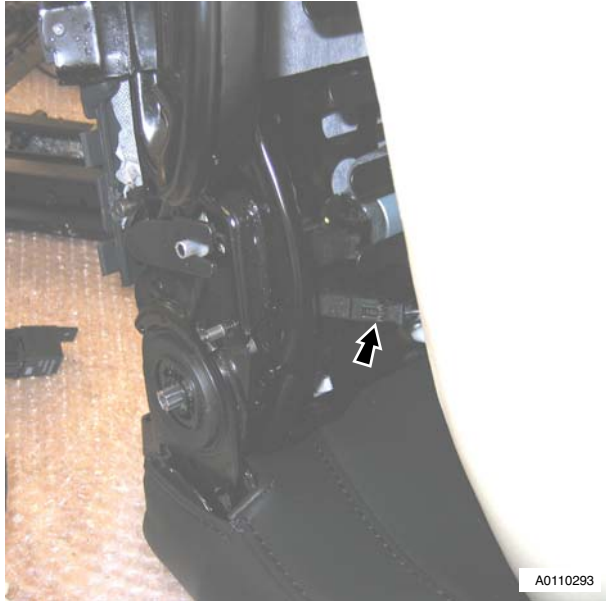

Figure 4
11. Disconnect heater multiplug and remove squab foam (see Figure 4).